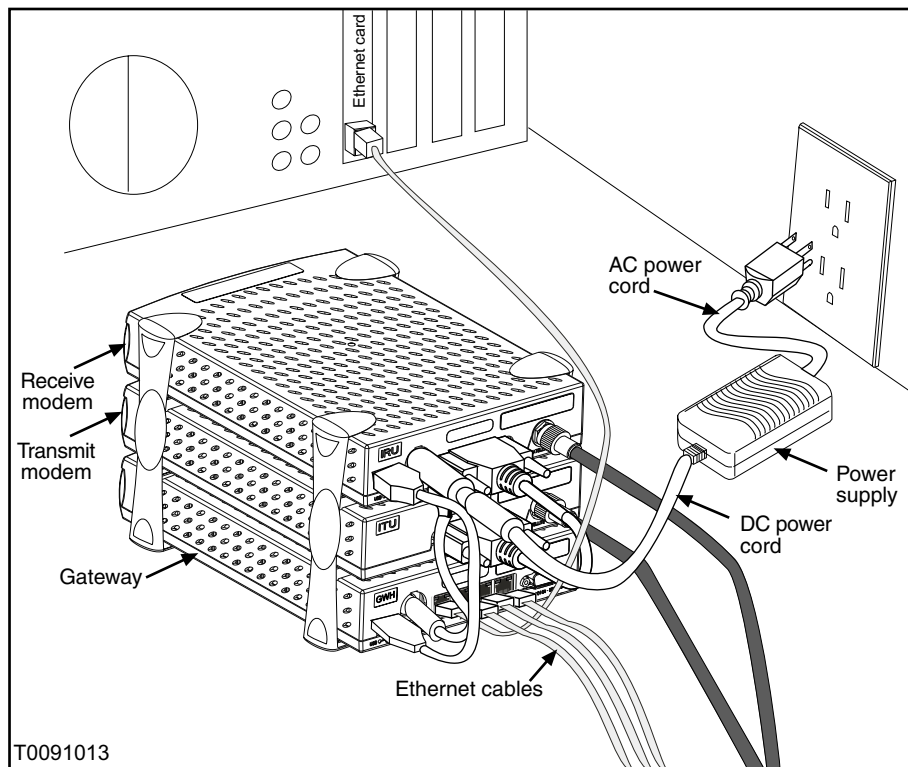

Figure 46: DW4020 power and cable connections
- Check to make sure the power cord is securely attached to the receive modem and plugged into the wall outlet or surge protector. See Figure 46. If the power cord was loose, the receive modem READY led will come on when power is restored.
- Check that the 25-pin connector is attached securely. See Figure 46.
- Check to make sure the power cord is securely attached to the receive modem and plugged into the wall outlet or surge protector. See Figure 46. If the power cord was loose, the transmit modem READY led may come on.
- Check to make sure the power cord is securely attached to the Gateway and receive modem and plugged into the wall outlet or surge protector. See Figure 46. If the power cord was loose, the Gateway and receive modem READY LEDs will come on when power is restored.
- Check to make sure the USB cable is securely attached to the Gateway and receive modem. See Figure 46. If the cable was loose, the Gateway and receive modem READY LEDs will come on when it is reattached.